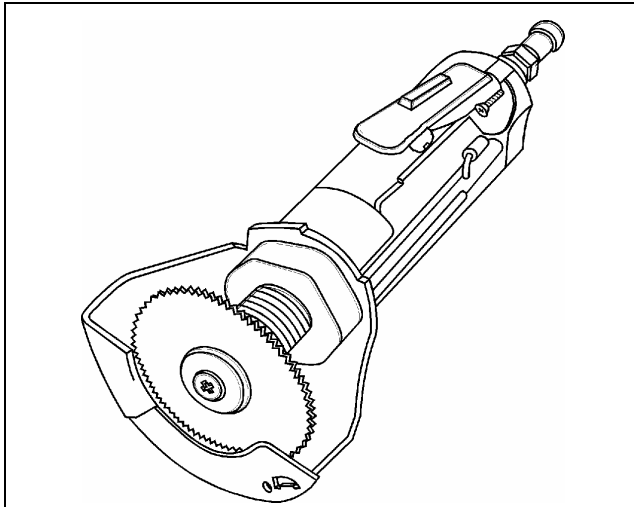

FIGURE 1 :RECOMMENDED PNEUMATIC TOOL
**Note :** Do not remove the stops to proceed to this modification. The most efficient tool to perform the modification is a pneumatic rotating hand tool with a circular saw blade (figure 1). In order to prevent metal cuttings from falling into the ventilation vent, cover the surroundings with a brown cardboard. Use two wooden sticks to hold the window in open position.